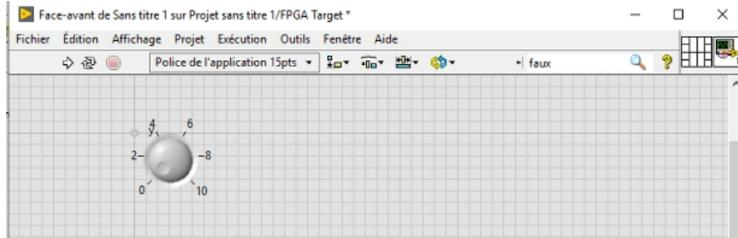

Figure 2.11: Basic button
3. select “replace”, “numeric” and finally the kind of interface wanted. Here, a rotating button is chosen (figure 2.11);